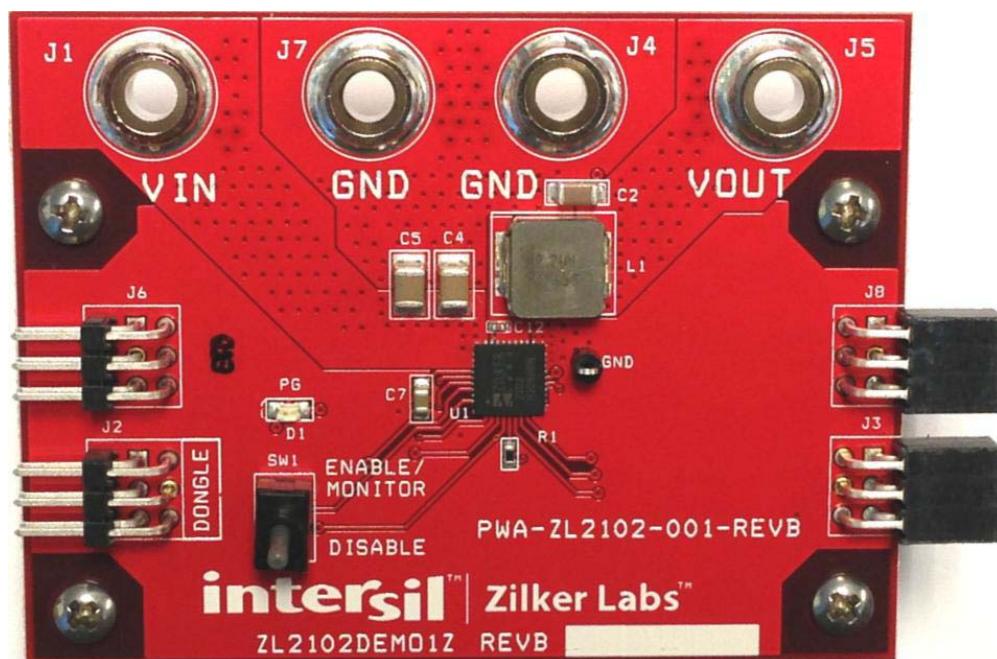
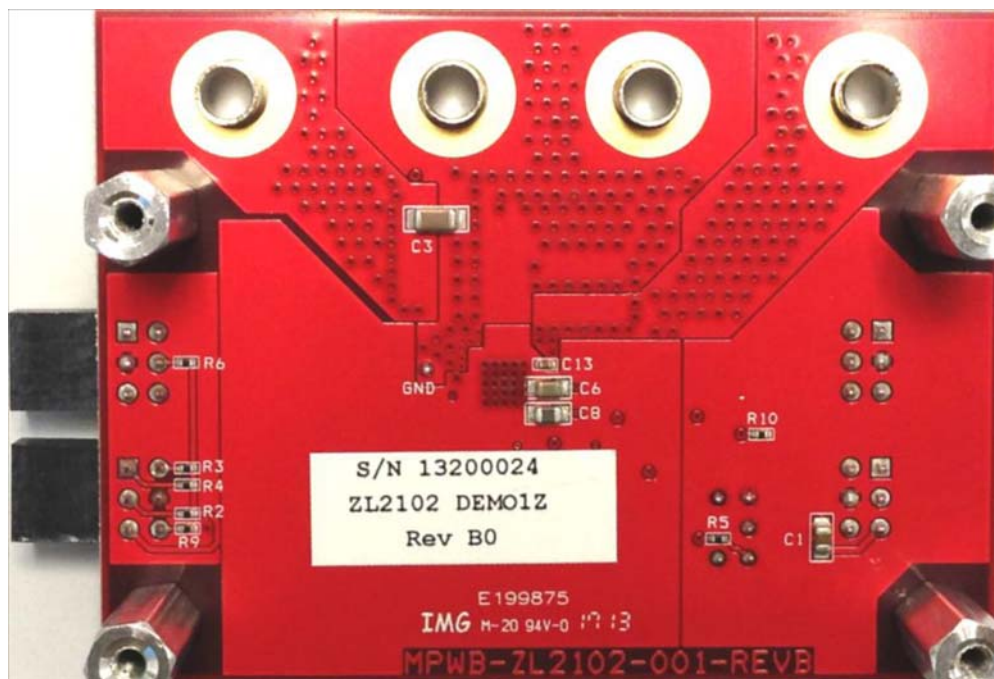

FIGURE 2. TOP SIDE
FIGURE 3. BOTTOM SIDE
The ZL2102DEMO1Z Demonstration Board is shown in Figure 2 and Figure 3. The hardware enable function is controlled by a toggle switch. The power-good (PG) LED indicates that V_{OUT} is regulating. The right angle headers at opposite ends of the board are for connecting a USB to SMBus control board or for daisy chaining of multiple Intersil evaluation boards.